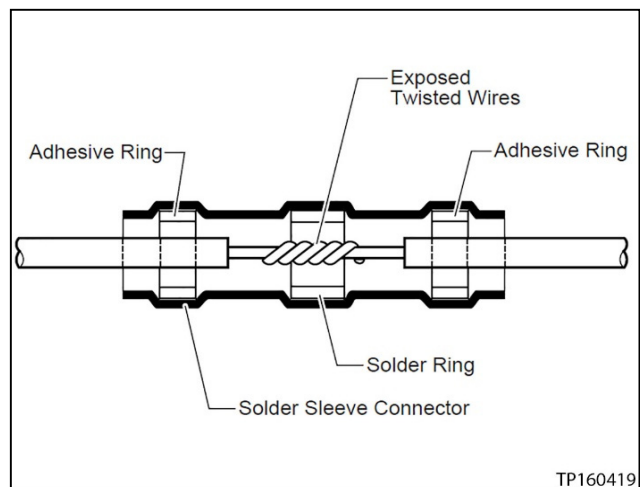

Figure 21
23. Slide the blue solder sleeve over the twisted pair and position it so that the solder ring is over the two twisted wires as shown in Figure 21.